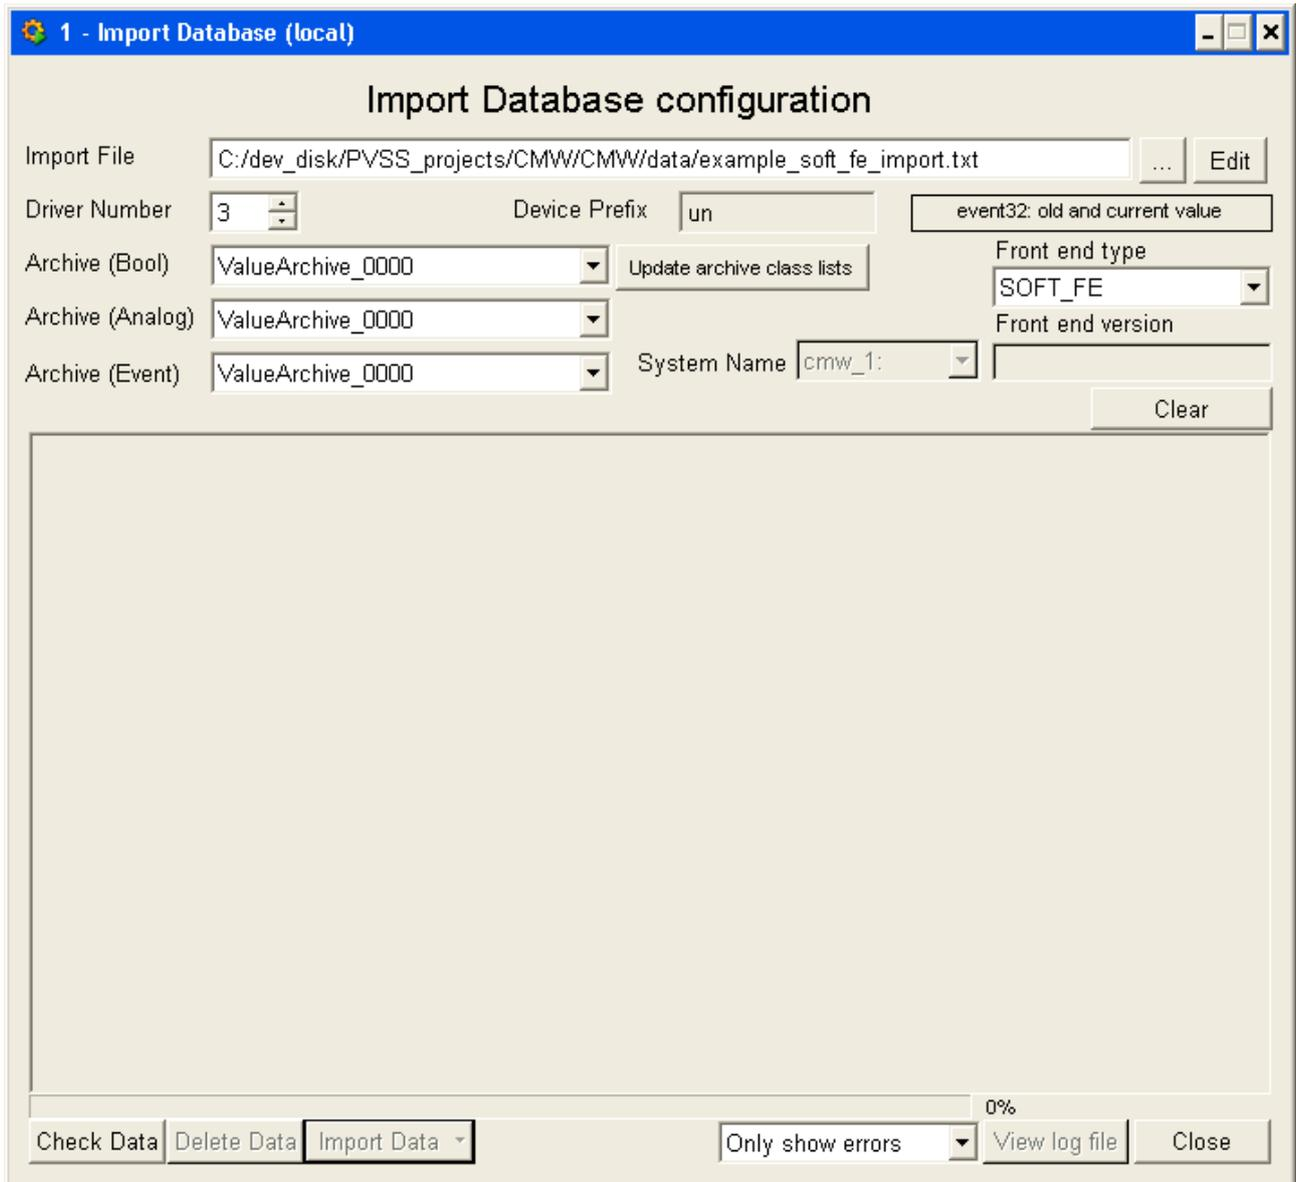

Figure 10: import the SOFT_FE front-end and devices.
- start the PVSS00sim –num 3 and import the file 'example_soft_fe_import.txt' with driver 3 and 'SOFT_FE' as front-end type (Figure 10)